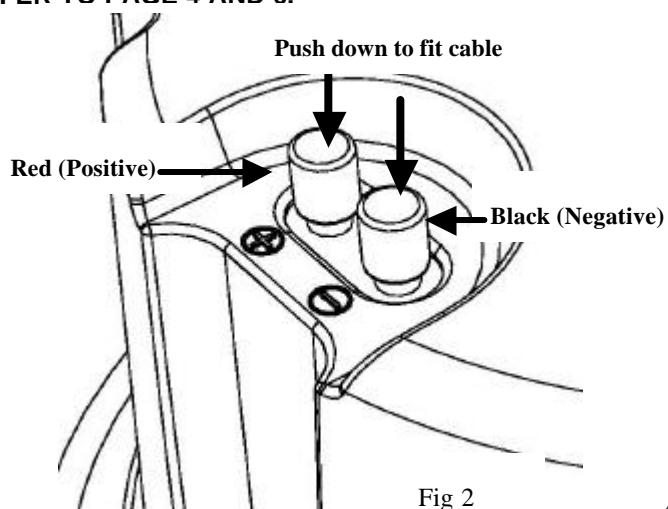

Fig 2
4. Locate speaker cable and connect by pushing the terminals in and releasing to clamp the cables as shown below Fig 2.